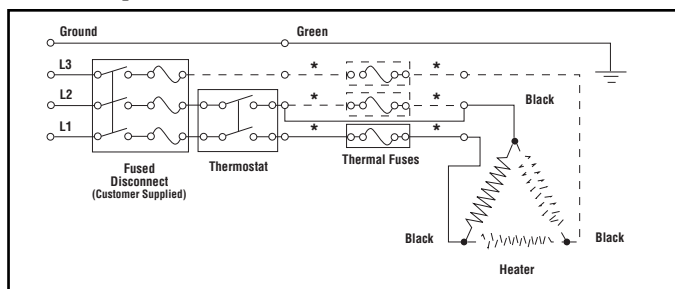

Figure 4
One Single phase heater or (3) single phase heaters equal in size and each having a thermal fuse wired as a 3 phase heater circuit using a DPST thermostat. Line voltage and current do not exceed thermostat or thermal fuse(s) rating (Figure 4). Dotted line and L3 indicates 3 phase connections.